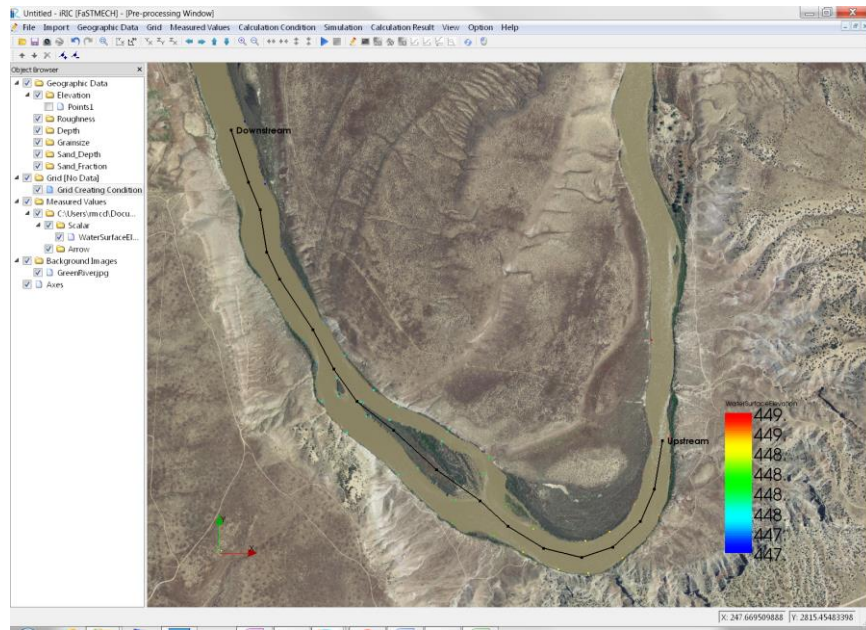

Figure 6. Location to draw centerline. Flow is from bottom to top so start at the lower end of the channel and select points ending near the top of the channel.
- To draw the centerline, click the left mouse button in the desired locations starting at the upstream most point of interest and ending at the downstream (Figure 6). The upstream end of the channel in Figure 6 is at the bottom right and the channel centerline should be drawn in the direction from lower-right to upper-left. When finished press “Enter” on the keyboard. Use Figure 6 and the blue water-surface points on the background image as a guide in selecting the boundary locations.